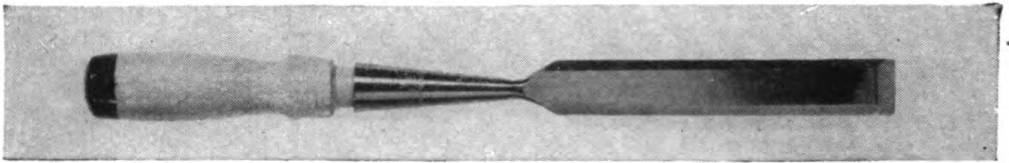

Figure 103. Woodworking chisel.
*g. CHISEL.* (1) A woodworking chisel is shown in figure 103. The chisel blade is made of hard steel similar to the blade of a plane. The handle is usually made of wood. It has a leather or metal ring to prevent the wood from splintering when a mallet is used.